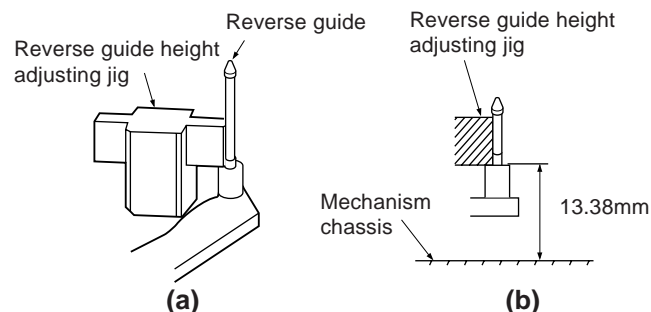

Figure 1-28.
1. Adjust the height from the mechanism chassis to the reverse guide lower flange to 13.38 mm, using the reverse guide height adjustment jig, in tape loading state. (Refer to Figure 1-28 (a) (b).)